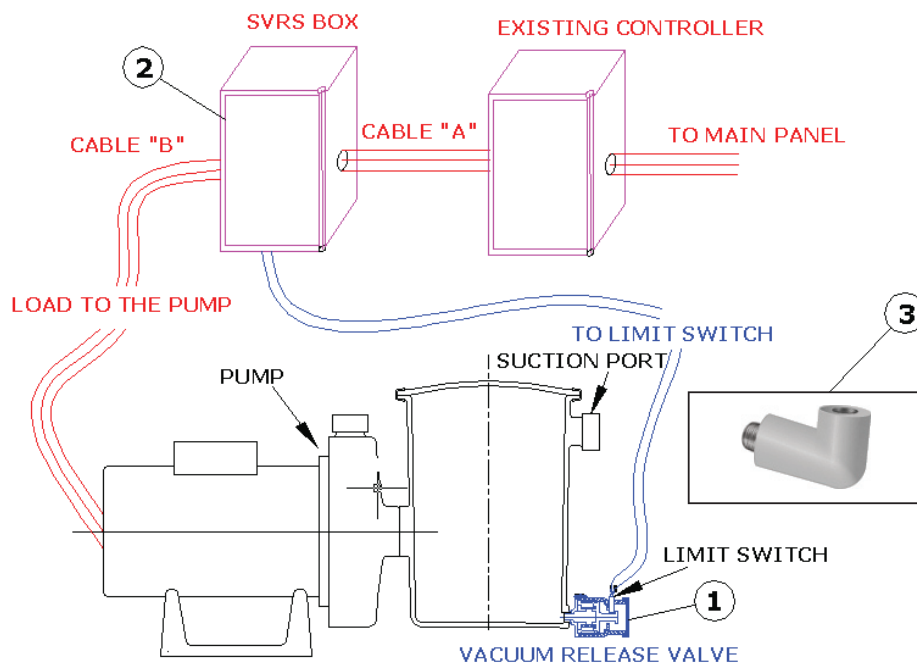

Figure 1. Breather III-ADJ System Schematic
1. PARTS LIST (See Figure 1)
- a. A piece of cable with copper conductors same gauge as the existing cable to make cable "A" and cable "B" if needed. See Figure 1.
- 4.6 Remove the most convenient knockout of the SVRS box and attach incoming line from existing timer or controller cable “A” to box using proper conduits and cable connectors as shown in Figures 1 and 3.
- 4.7 If your pump is cord and plug connected, remove plug at end of pump cord. Split cord about 4 inches and strip wire ends 1/2 inch. Remove the most convenient knockout of the SVRS box and attach cord to box using proper strain relief grommet as shown in Figures 1 and 3.
- 4.8 If your pump is hard wired, (if needed) prepare cable “B” by stripping the ends of wires about 1/2 inch, Using proper conduits and cable connectors attach cable “B” to the box as shown in Figures 1 and 3.
- 4.9 Connect the cable to the pump motor and then the wires to the motor terminals per motor instructions and nameplate diagram. Remove the most convenient knockout of the SVRS box and attach the other end of the cable to the box using proper cable connector as shown in Figures 1 and 3.